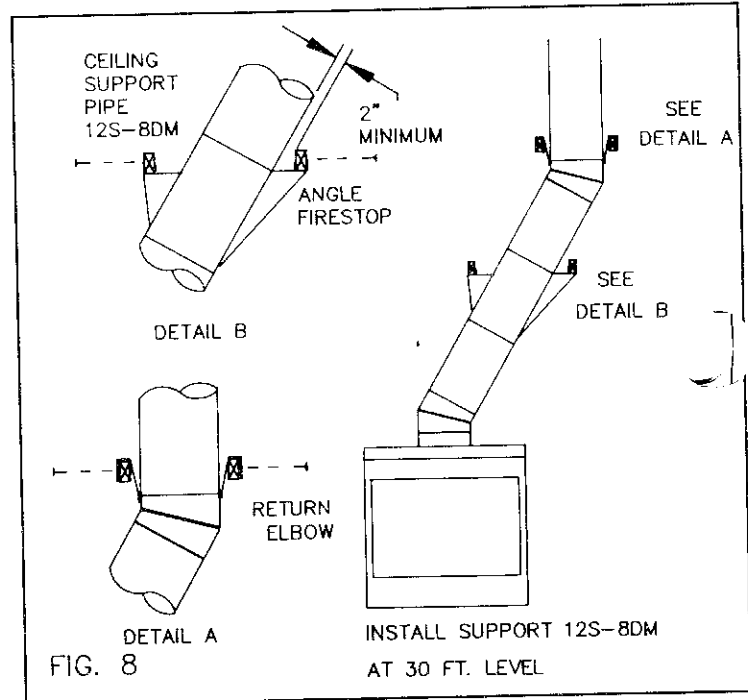

FIG. 8
- Chimney weight above offset rests on return elbow. Straps must be securely nailed to rafters or joists (See FIG. 8 details A & B).